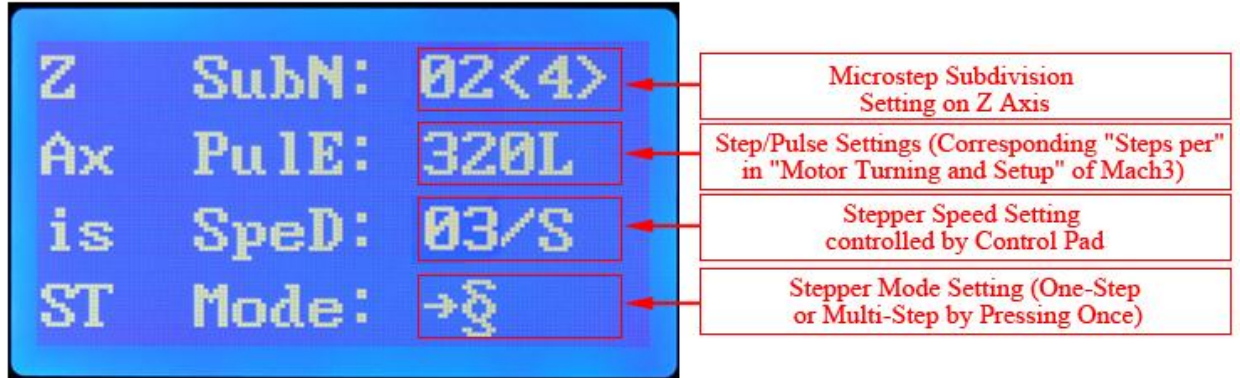

Figure 15: Z Axis Running Parameters Setting
- After finishing “Y Axis Running Parameters Setting”, please press the “ST” key on control pad again to skip to the “Z Axis Running Parameters Setting” in “Figure 15”.